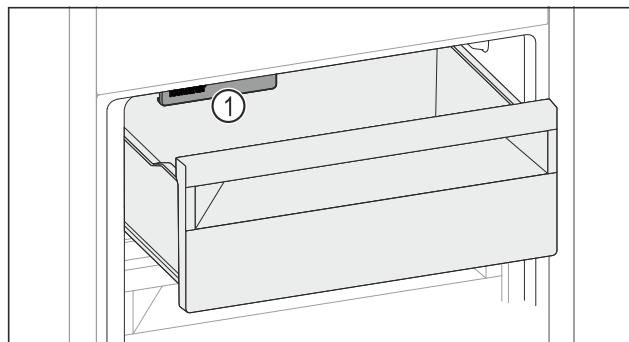

Fig. 145
- ▶ Watch out for the IceMaker Fig. 145 (1).